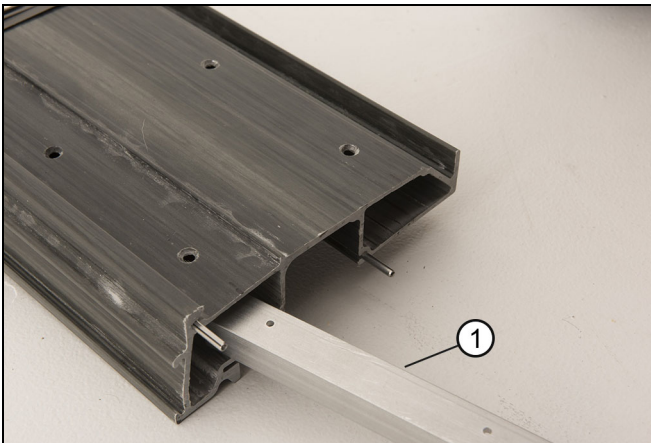

Figure 14
2. Fasten the sill splice bracket(s) into one side of the sill. See Figure 14.